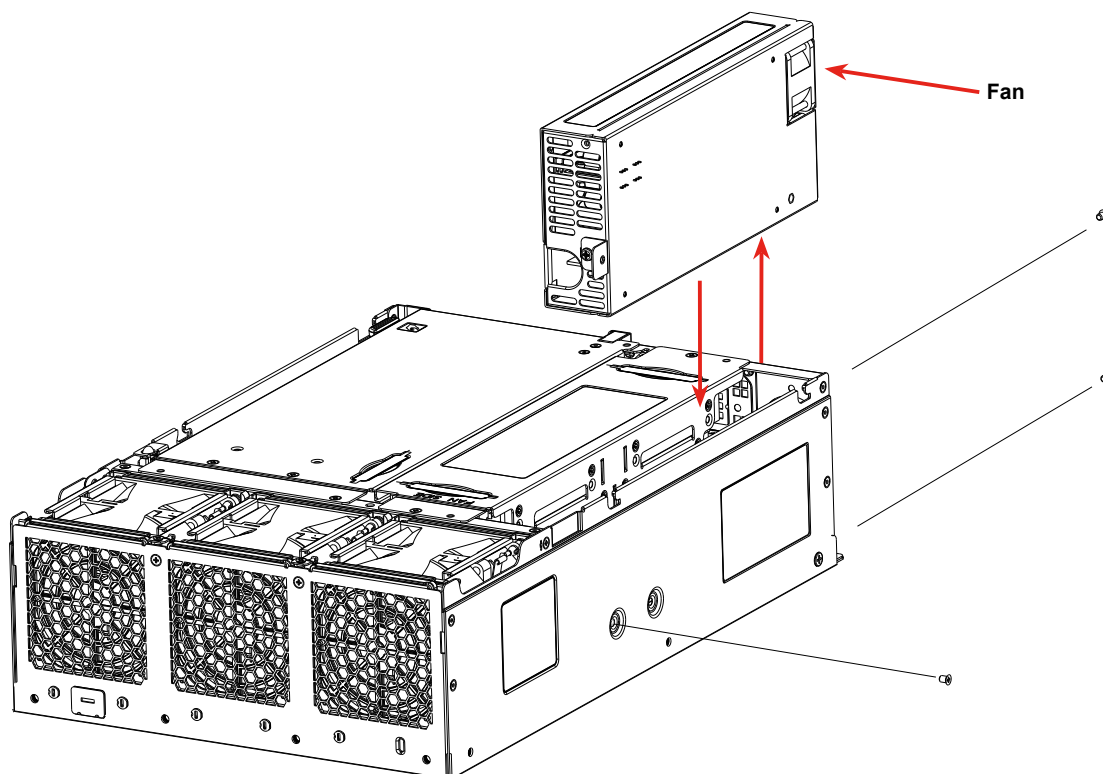

Figure 3-15. Removing the Power Supply
5. Remove three screws on the chassis as shown in Figure 3-15 and set them aside.